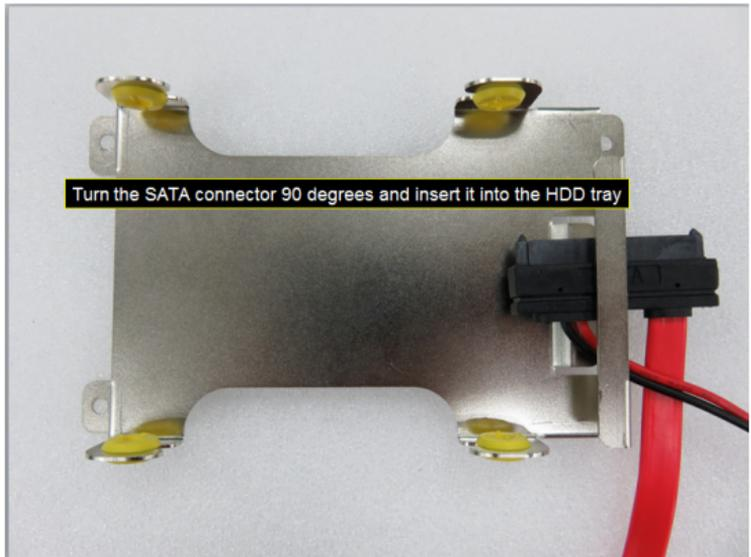
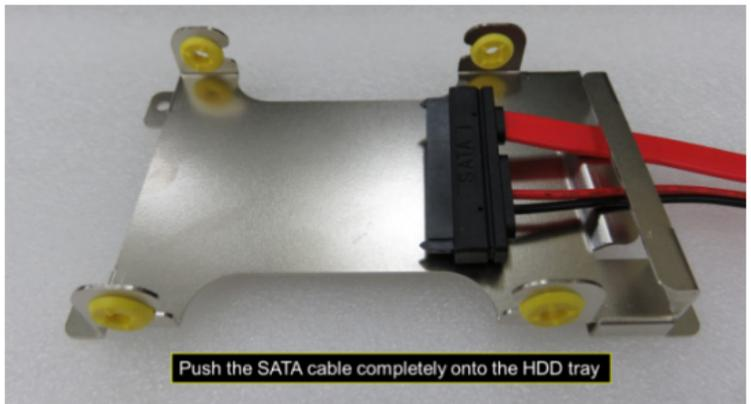

Figure 14
Figure 15
- 4.2.1.3 Turn the SATA connector clockwise by 90 degrees and gently insert the connector head into the opening on the HDD tray until it completely passes through the opening as shown in Figure 14 and Figure 15.